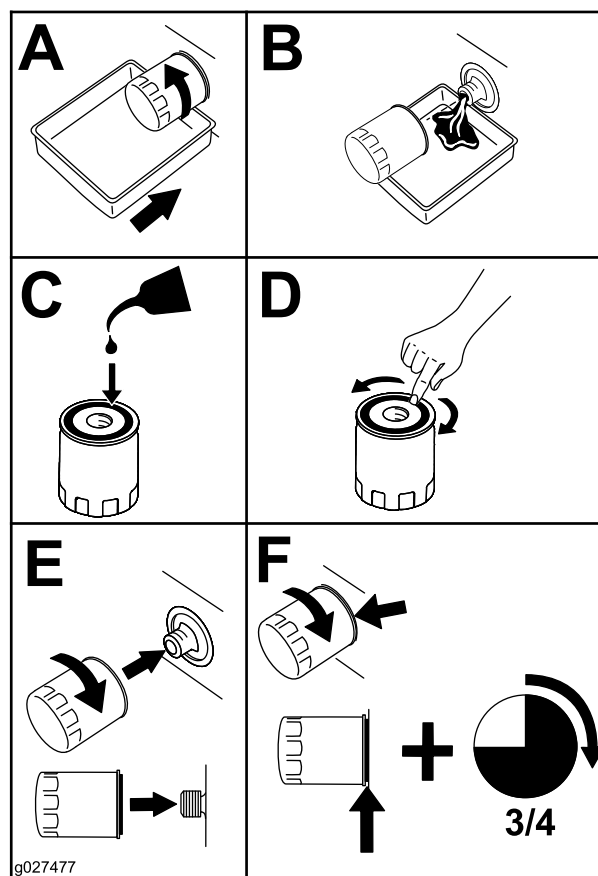

Figure 33
2. Change the engine-oil filter (Figure 33).